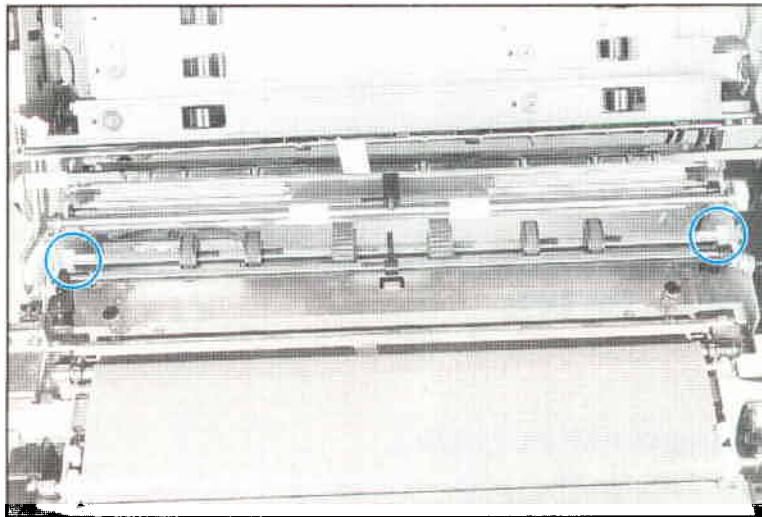

Figure 6-37 Pickup Roller Shaft Keeper Bushing
6. From the left side of the printer, release the Keeper Bushing (see Figure 6-37).